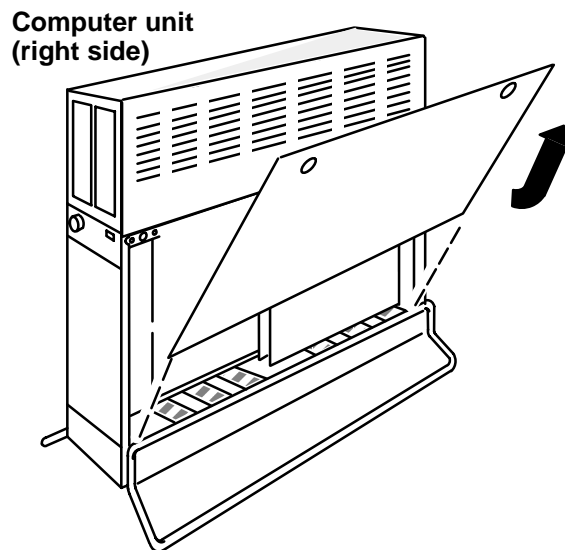

Figure 6-6 Removing the Side Covers
4. While supporting the side cover, lift it up and away from the computer unit as shown in Figure 6-6.